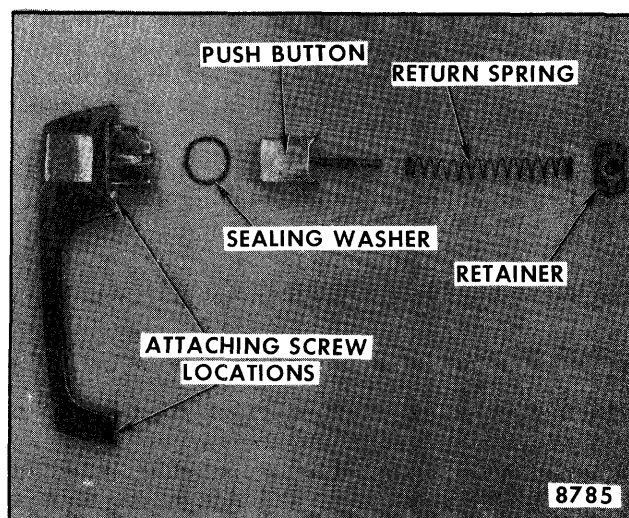

Fig. 5-18-Door Outside Handle
2. Depress retainer slightly and rotate 1/4 turn in either direction. Remove retainer, spring, push button and shaft and sealing washer from handle (refer to Fig. 5-18).
NOTE: Rear door handle push buttons, springs and retainers are serviced as an assembly. The die cast handle is serviced separately. Front door handle components are serviced separately as shown in Figure 5-18.